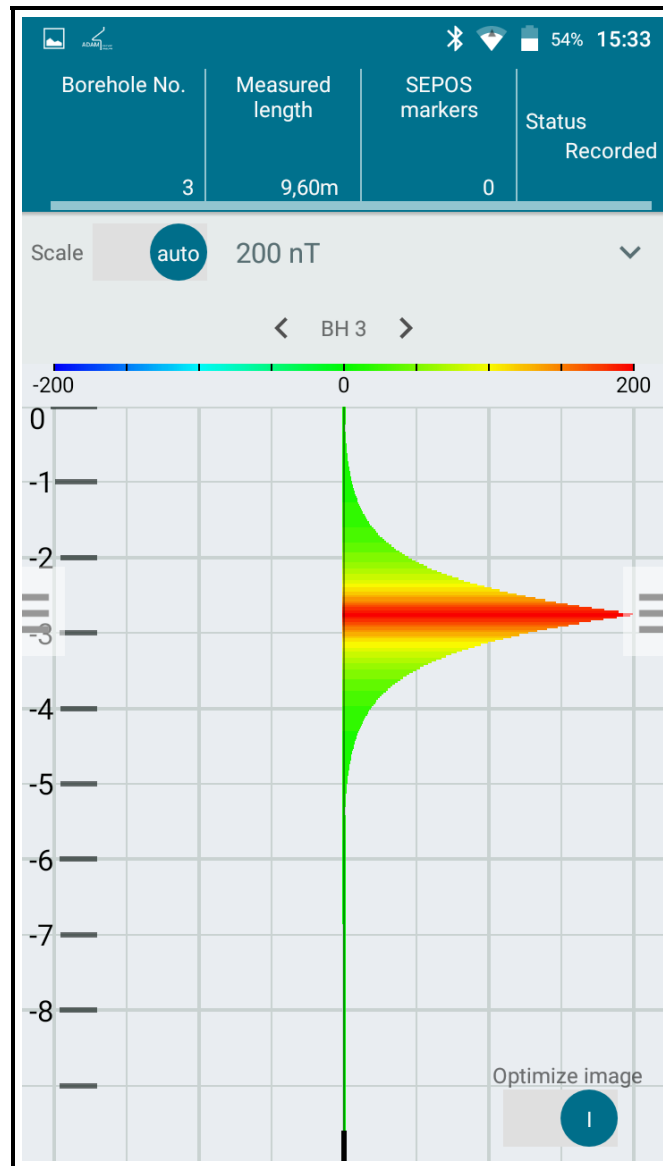

**Fig. 4.6.35:** Curve display of a borehole
Tap the requested borehole in order to view it in the curve display. Then tap the icon  at the bottom left of the screen. Tap the *Scale* field and select *auto*. The following view shows you the borehole in the curve display, see Fig. 4.6.35.
Obtain additional information about a borehole by tapping in the curve display of a single borehole the menu icon  on the right-hand side, see Fig. 4.6.35 and 4.6.42.
2. Tap on DETERMINE GNSS POSITION in the lower part of the view to provide a borehole with GNSS coordinates (see Fig. 4.6.35 on page 58).